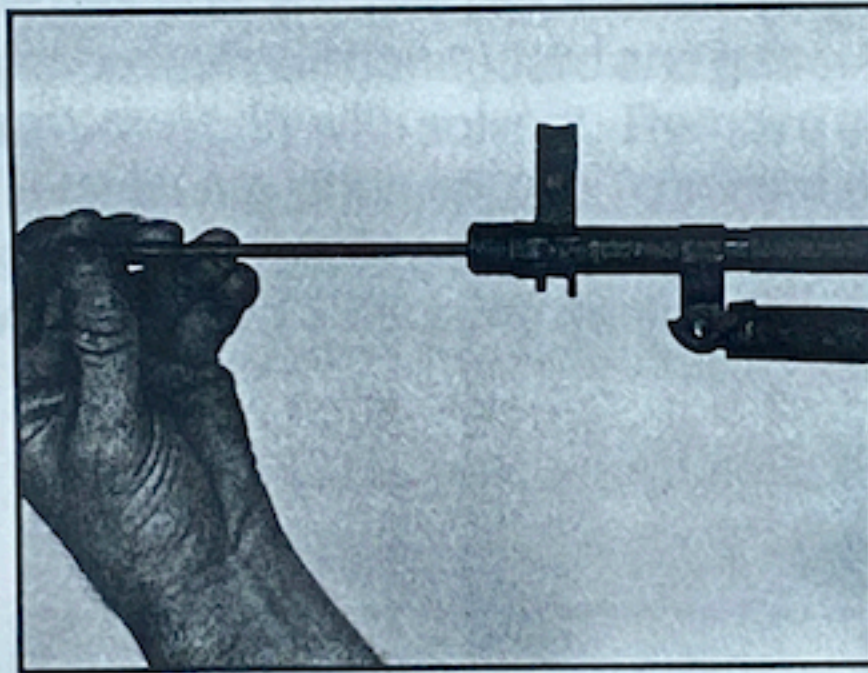

Figure 15
2. Saturate the bore brush with gun solvent and push through the length of the barrel. (Figure 15) If using corrosive primer, this step is very important to remove the corrosive residue from the barrel of your rifle.